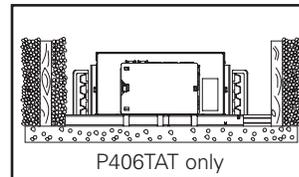

Figure 1.
- Non-IC Platform: The P406TAT housing is designed for installation where it will not come in contact with insulation. Thermal insulation must be kept a minimum of three inches (3") away from the housing sides, top and junction box (Figure 1.).